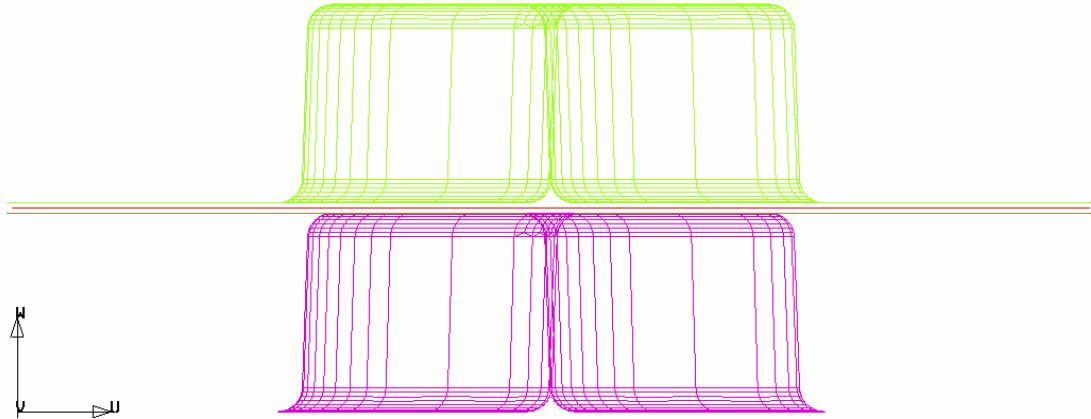

Figure 93: Model after autopositioning
6. Click  and  icon in the **Icon bar** to display the model after positioning. See Figure 93.